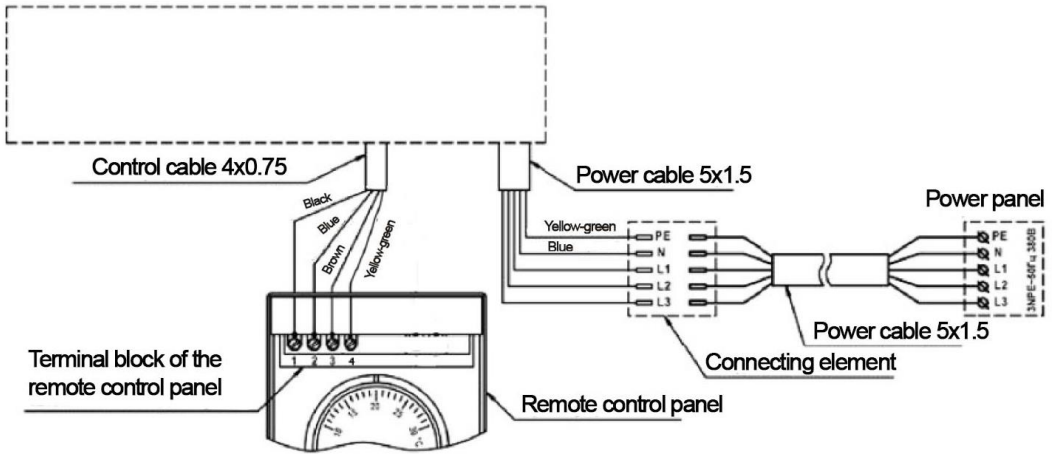

Fig. 5
- connect the control cable removed from the curtain to the terminal block of the control panel according to the scheme from Fig. 5, which is also indicated on the device body.
3. Connection to the stationary power supply network is carried out in accordance with the scheme indicated in Fig. 5 and on the curtain body.